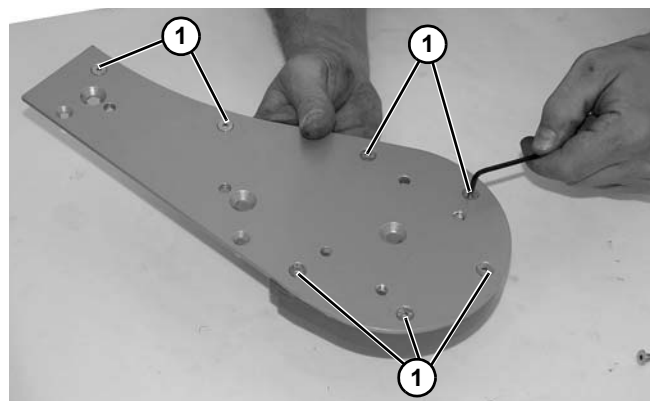

Figure 135
1. Remove seven (7) socket head screws (**Figure 135, item 1**) from idler head plate assembly.